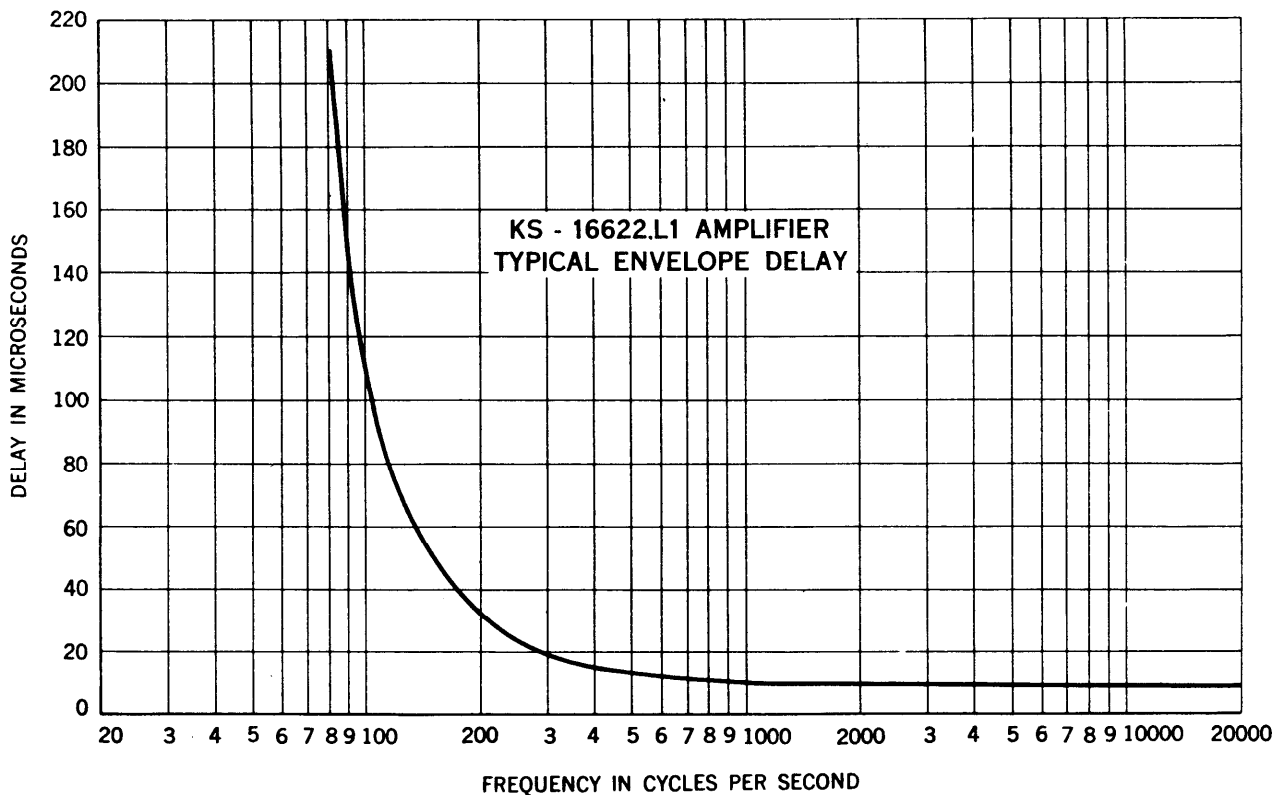

Fig. 6 – Envelope Delay Distortion
6.03 Fig. 6 shows the typical envelope delay characteristics of the amplifier in micro-seconds.